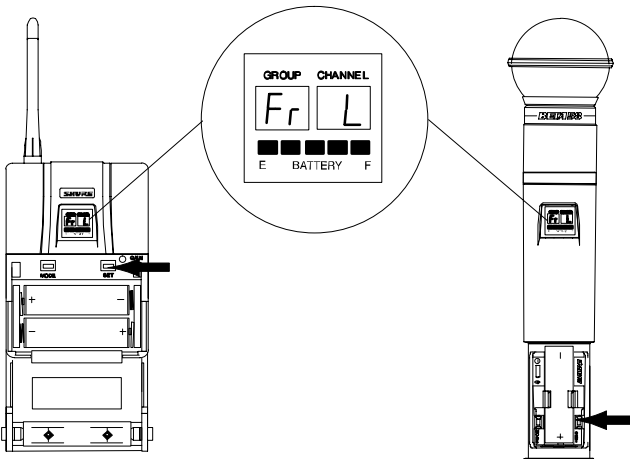

FIGURE 44
2. Turn the power back on while holding down the SET button until the fuel gauge on the transmitter is active. “Fr L” appears momentarily, as shown in Figure 44, until you release the SET button.